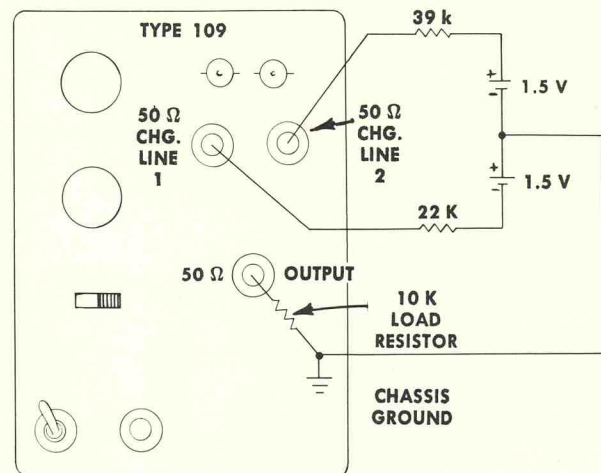

Fig. 6-2. Mercury switch tester circuit connected to the Type 109.
- (6) One mercury switch tester constructed similar to the one shown in Fig. 6-2. Use the following parts:
- Connect the leads from the mercury switch tester to the Type 109 connectors as shown in Fig. 6-2. Use care when inserting the banana plugs into the connectors as explained previously.